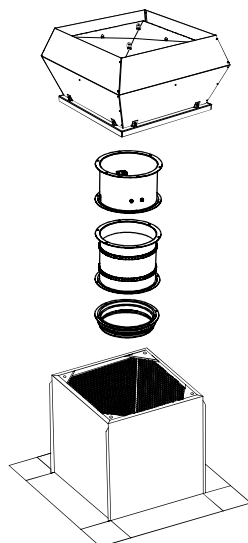

Fig. 5.5.23 Mounting and installation using accessories
- The device is mounted onto the chimney using accessories: reverse thrust valves, flexible connectors, and connection flanges. They have to be installed only as shown in Fig. 5.5.23.